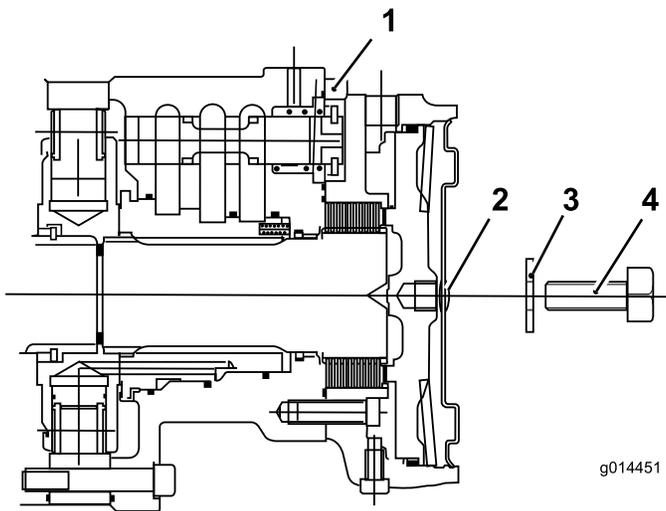

Figure 45
- Remove the bolt 12 x 40 mm and washer 12 mm from the hole at the center of the motor end plate (Figure 45).